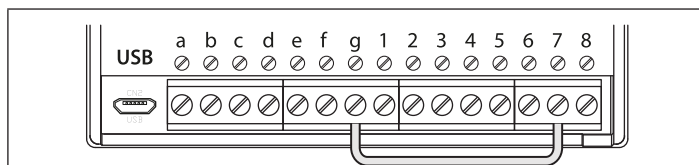

Fig. 60
2. Put a short across terminals g & 7 on the back of the GSM PRO module, as shown in **Fig.60**.